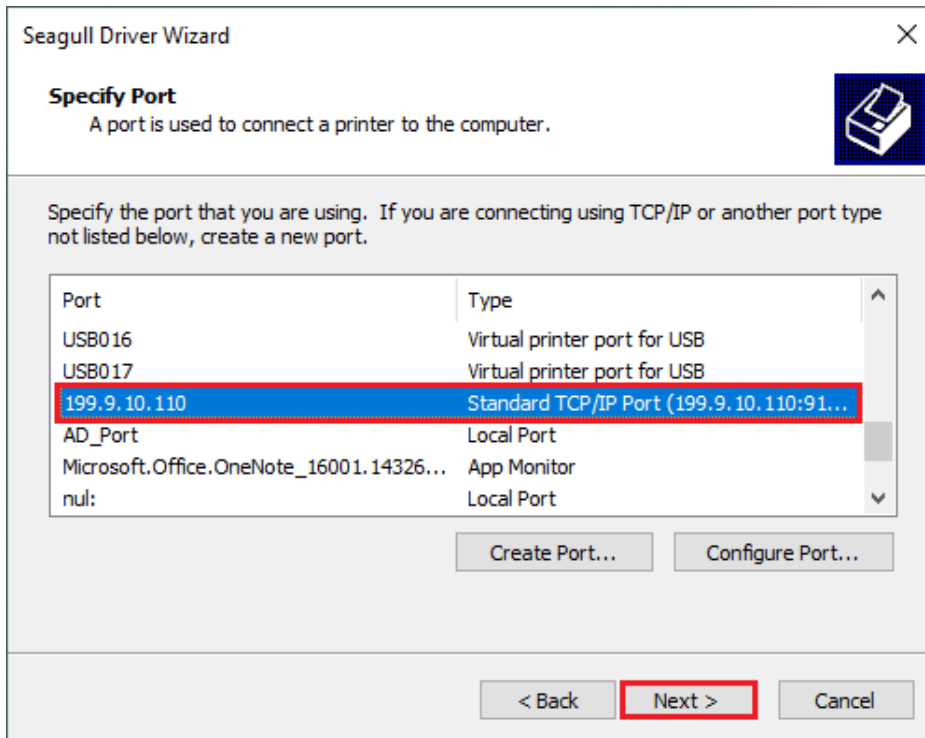

Figure 2-39 Specify Port Screen
- Return to the “Specify Port” screen, select the TCP/IP Port that has been added, and click “Next”, as shown in Figure 2-39.